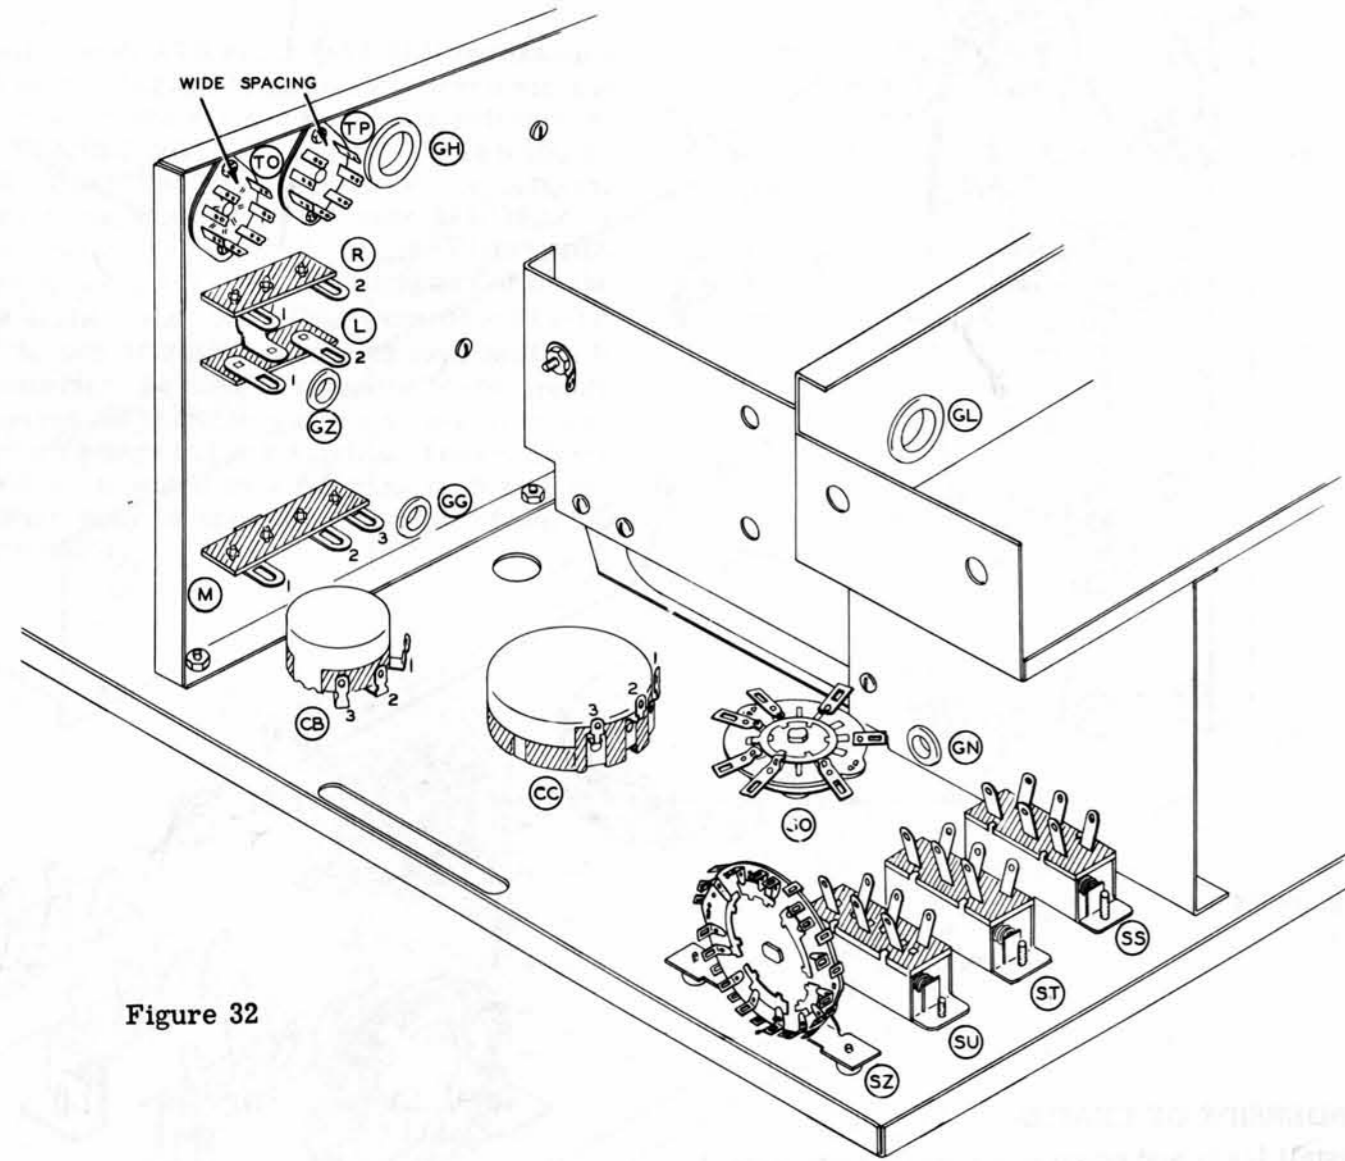

Figure 32
- ( ) Connect a 250  $\Omega$  1% resistor from SO10 (NS) to SO12 (NS).
- ( ) Connect a 250  $\Omega$  1% resistor from SO12 (S-2) to SO3 (NS).
- ( ) Connect a 500  $\Omega$  1% resistor from SO3 (S-2) to SO6 (NS).
- ( ) Connect a 1 K $\Omega$  1% resistor from SO6 (S-2) to SO1 (NS).
- ( ) Connect a 4.7 K $\Omega$  resistor (yellow-violet-red) from SO1 (S-2) to SO8 (NS).
- ( ) Mount the SIGNAL switch SO as shown in Figure 32, using control hardware.
Follow the steps outlined in Figure 33 for the mounting of those parts located on the chassis. Also, refer to Figure 32.